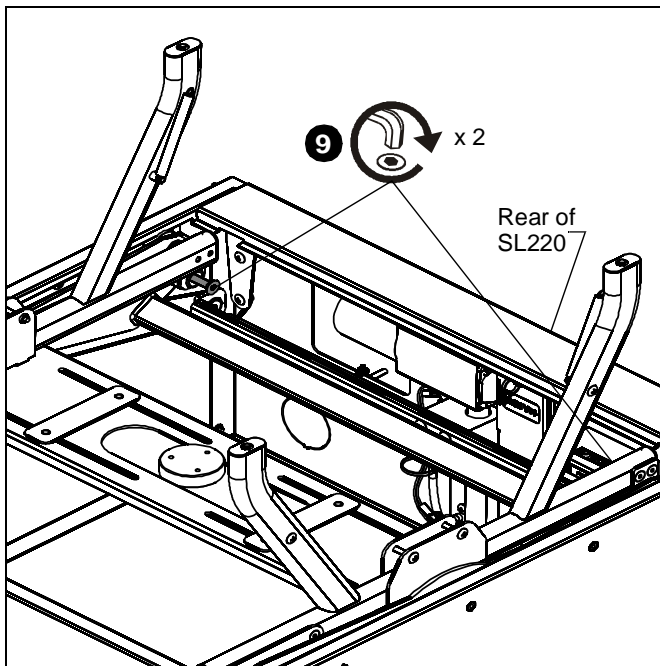

Figure 14
- Line up rear spacers with attachment holes on SL220 arms. (See Figure 14)